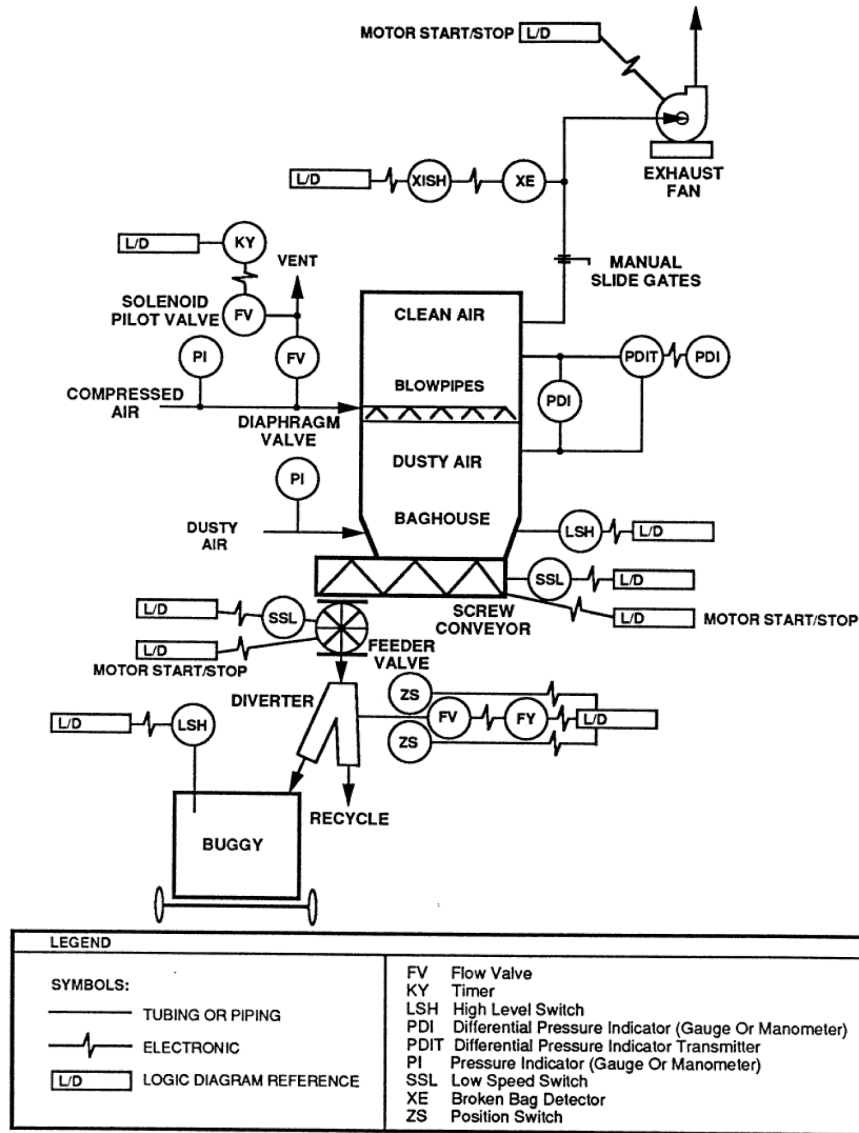

FIGURE 6-16. Baghouse indicators, alarms, and controls
6.3.12 Baghouse Indicators and Controls. Baghouses can be complex subsystems of local exhaust ventilation systems. They require indication of operating parameters such as pressure, alarms of problems like hopper high level combustible dust mitigation subsystems, and controls for systems like bag cleaning. The Piping and Instrument Diagram (see Figure 6-16) shows most of the indicators and controls installed with a baghouse; although all local exhaust ventilation systems do not require the use of all the devices shown.
6.3.15 Typical Filter Dust Removal Control System. To put motion, position, and level components together into the control logic for the filter dust removal system shown in Figure 6-16 requires a number of different detectors to ensure